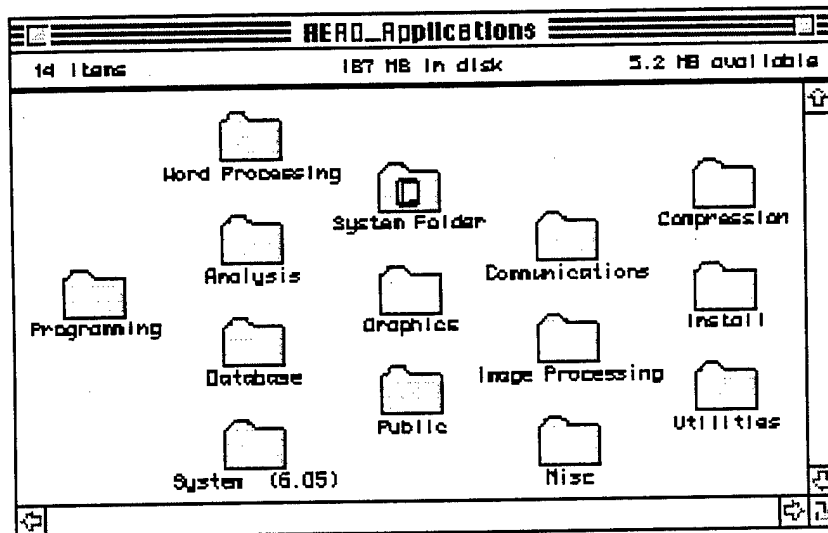

Figure 2.3: Contents of Aero\_Applications
clicking. The colors in the icon will now be inverted in appearance, or highlighted. If the window is already open, close it by clicking the "close box" in the top left title bar for the window shown in Figure 2.3.
3. With the mouse still depressed, choose **Open** from the list of commands by *dragging* the pointer down the list and releasing the button when the **Open** command appears as inverse video. The Aero\_Applications Icon will open, displaying the contents of the hard disk (See Figure 2.3).